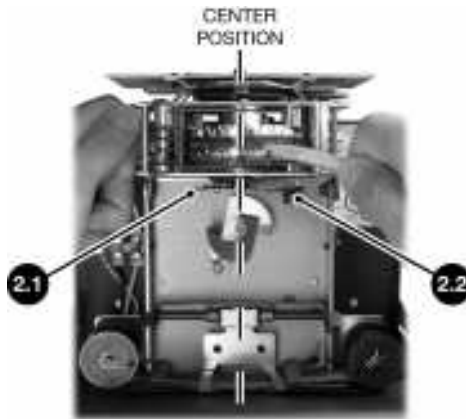

Figure 2
1. Locate the Center Line where all the wheels line up as shown in **Figure 2**.
2. Rotate the wheels using a pointed object. Rotate each wheel until the correct date and time are aligned at the Center Position, as shown in **Figure 2**. **Hint: Start at the top wheel and work down when setting.**